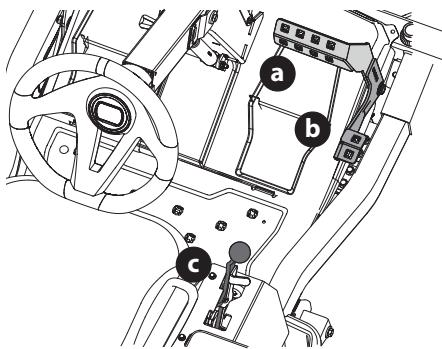

Figure 22
2. To travel FORWARD, slowly press the forward drive pedal (a) forward until the desired speed is achieved (Figure 22).
3. To stop or slow down the tractor, take your foot off of the forward (a) or reverse drive (b) pedal. To lock the parking brake, place drive control pedals in neutral and pull the park brake lever (c) back until it locks into the "on" position (Figure 22).
4. To travel in reverse, check that the area behind is clear then slowly push down on the reverse drive pedal (b) with the ball of your foot (NOT your heel) until the desired speed is achieved (Figure 22).